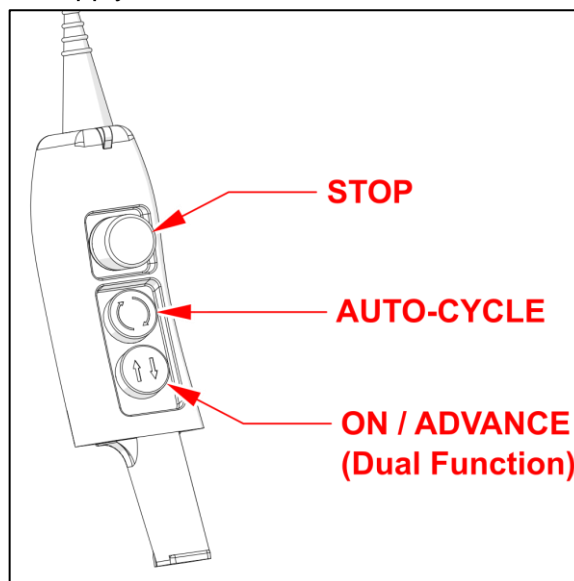

Figure 6.2: Pendant Control Buttons
2. Turn the pump ON by pressing the 'advance button' once. (See figure 6.2)
6.3 Pendant Control Buttons (figure 6.2)
(See figure 6.2)
3. Using the remote 'control pendant' (17), press the 'Advance' button once to start the pump. (See *figure 6.2*)
6. Turn the pump off by pressing the 'Stop' button on the control pendant. (See *figure 6.2*)